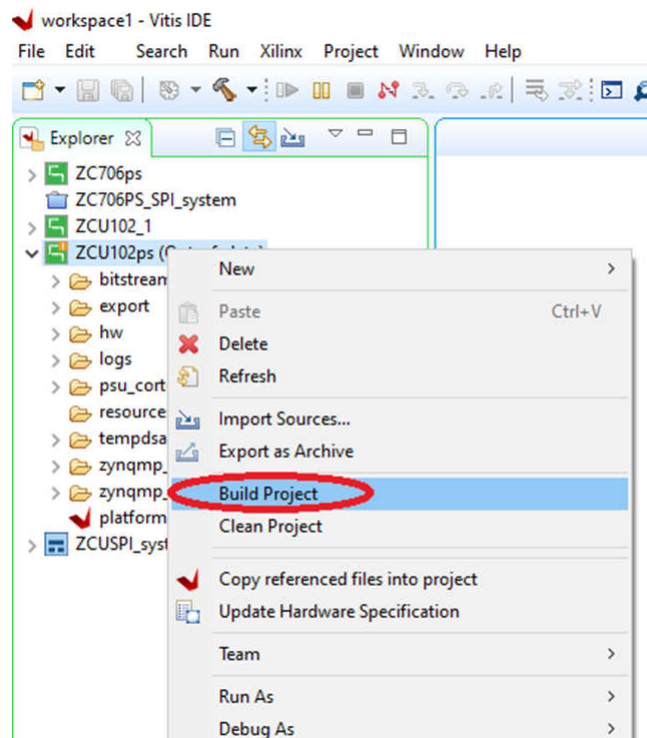

Figure 6-5. Building the New Project
- Right-click the new platform project to open the drop-down menu. Click *Build Project* to start the build (see Figure 6-5). This can take some time to complete the build.